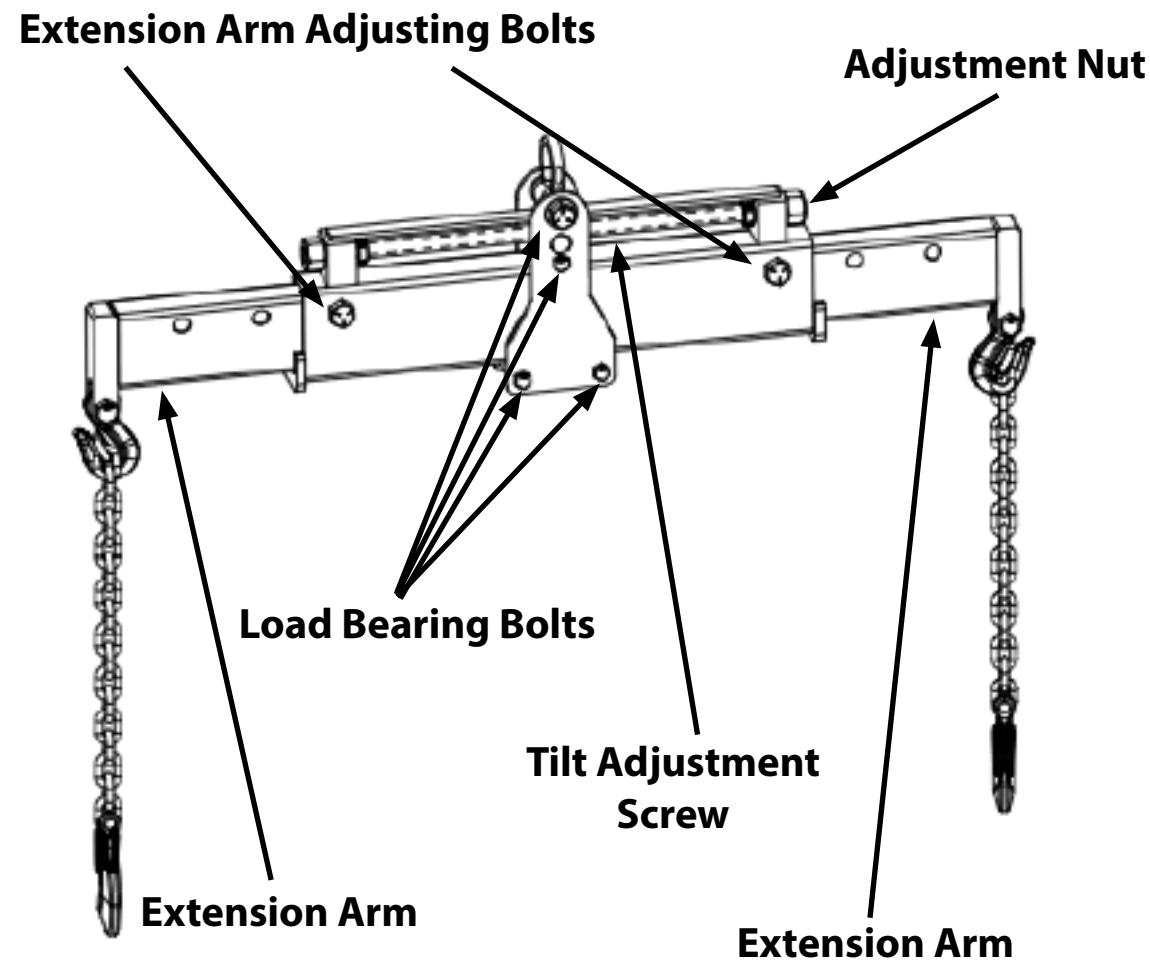

Figure 1
3. Verify the Extension Arm Adjusting Bolts are securely fastened. See **Figure 1**
⚠ DO NOT ever remove or replace any of the Load Bearing Bolts. See Figure 1.
1. For optimal performance of the Tilt Adjustment regularly clean debris from the Tilt Adjustment Screw and lubricate with general purpose grease . See **Figure 1**
2. Ensure the four Load Bearing Bolts are fastened securely. See **Figure 1**